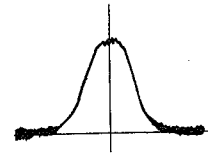

Fig. 7
- Adjust the core of T101 so that the gain will be max. In this case, reduce the level of the input signal of signal generator so that the waveform will be done shown in Fig. 7.